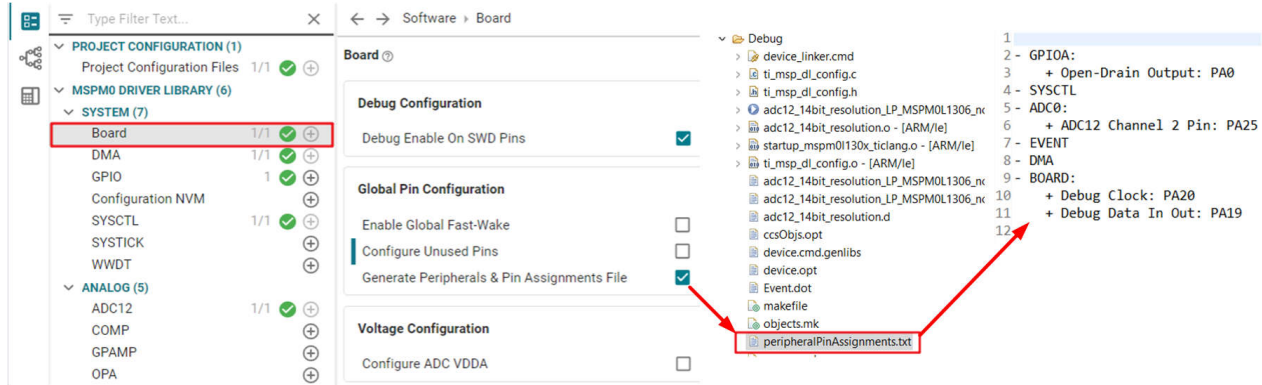

Figure 3-12. Board View
- Generate Peripherals and Pin Assignments File: As shown in Figure 3-12, after enabling, a peripherals and pin assignments file will be generated in the *Debug* folder.